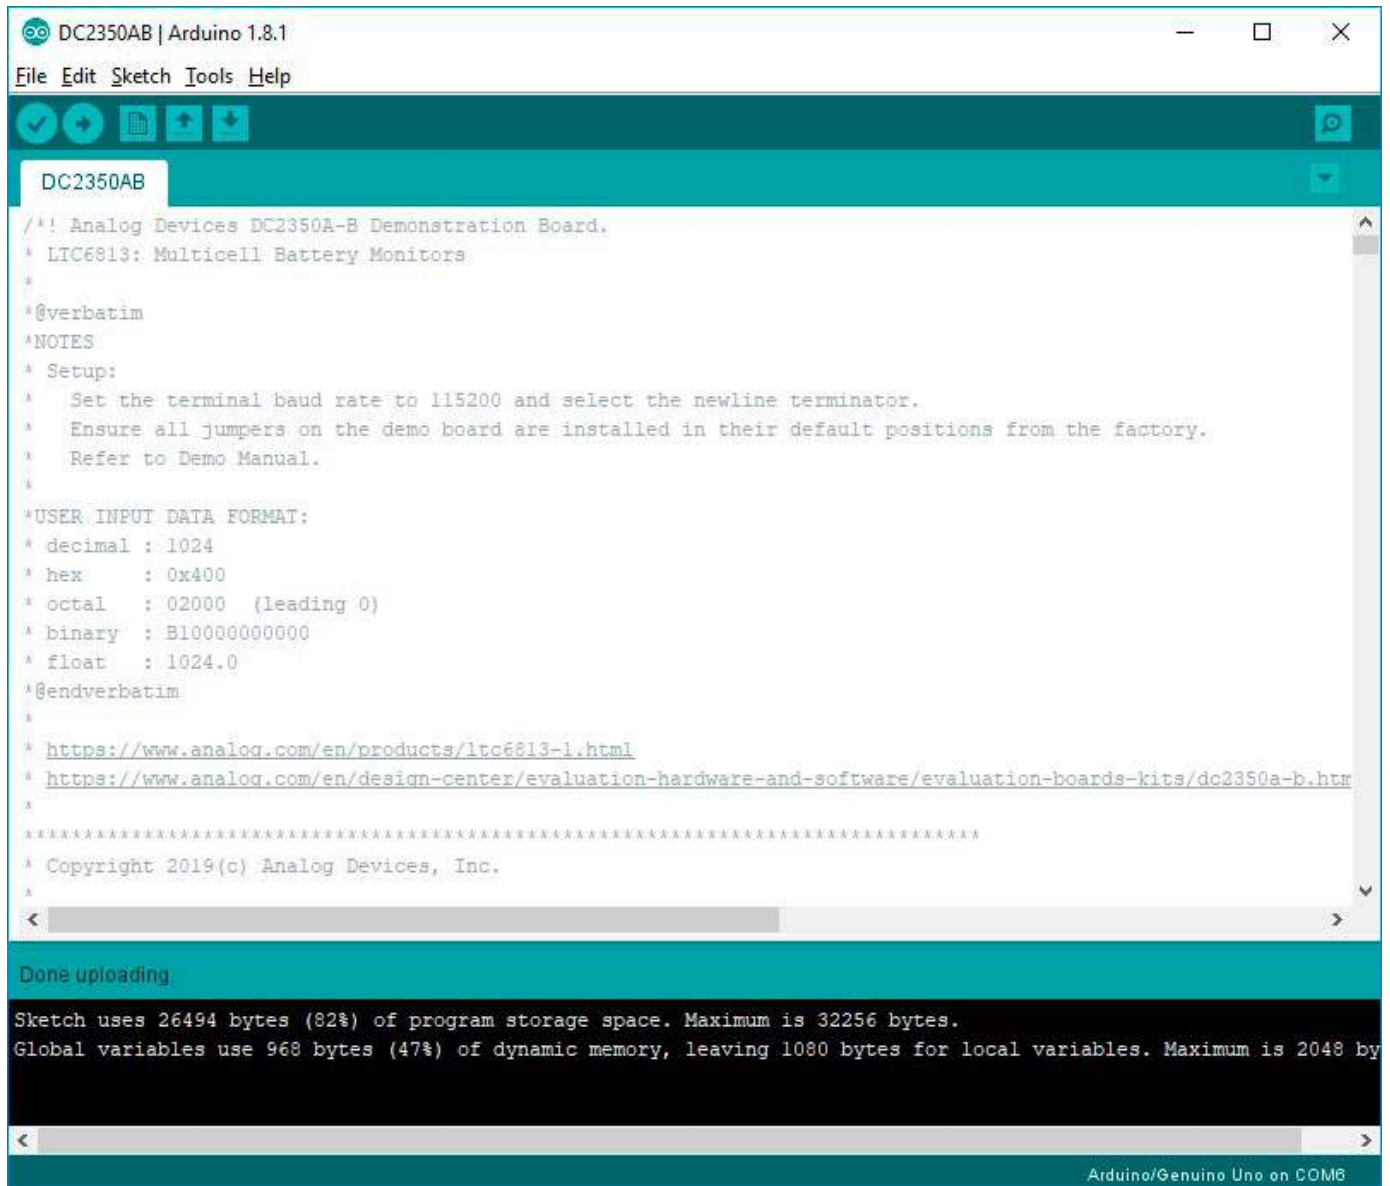

Figure 8. Uploading DC2350AB Sketch
7. Upload the **DC2350AB** sketch onto the DC2026 by clicking on the **Upload** button on the top left corner. When this process is completed there will be a **Done Uploading** message on the bottom left corner (see Figure 8).